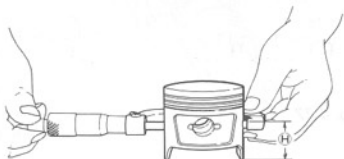

Fig. 4-83
Piston-to-cylinder clearance, mentioned above, is equal to the bore diameter minus the piston diameter, which is to be measured by measuring at the level of the piston in the direction transverse to piston pin axis, as shown in Fig. 4-83. This level (H) from the skirt end is 30 mm (1.18 in.) high.